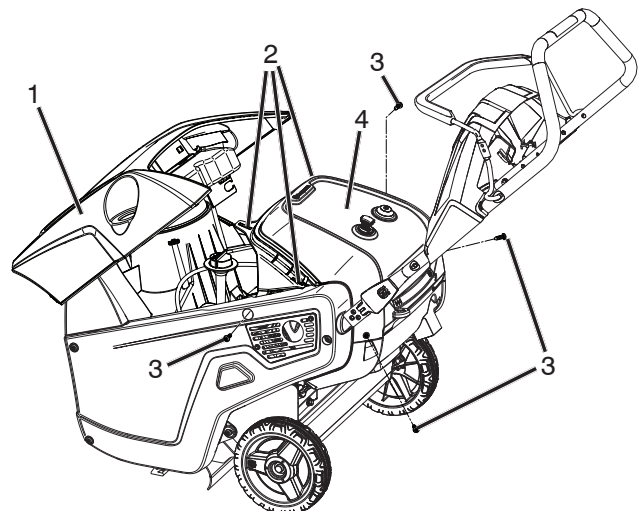

Figure 27
8. Unsnap top cover by firmly pulling upwards at the rear section of the cover disengaging the three clips (Figure 27).
23. Reattach two screws through the rear covers and into the clip on the side cover (Figure 27).
25. Set top cover in place and snap three top cover clips into the rear upper cover (Figure 27).